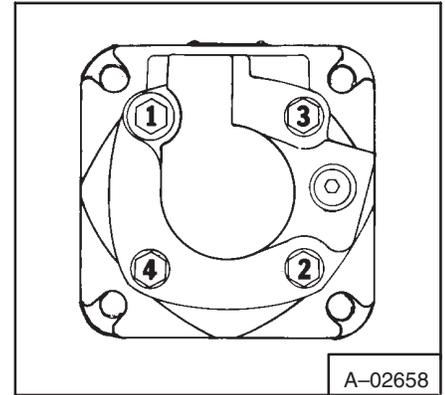
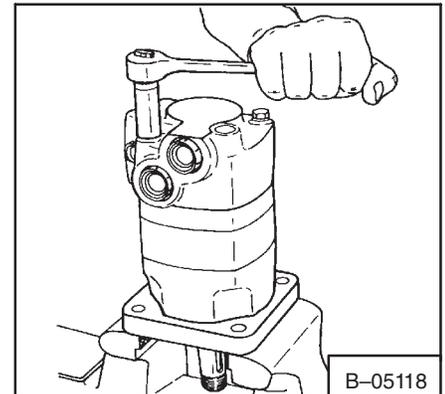

Fig. 3-78 Tighten Sequence
Fig. 3-79 Tighten Bolts
33. Install the bolts. Use the sequence (Fig. 3-78) and tighten the bolts to 50 ft.-lbs. (68 Nm) torque (Fig. 3-79).